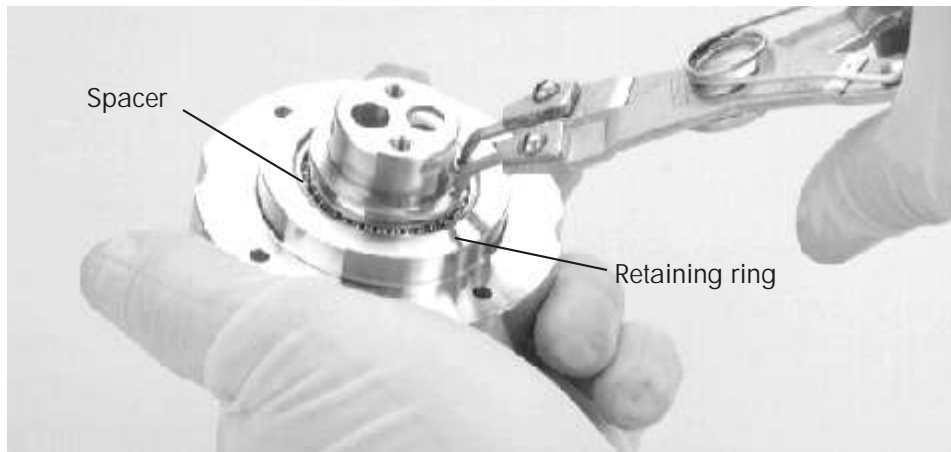

Figure 5-16. Removing the retaining ring
Perform the steps described below and refer to Figures 5-16 and 5-17 when disassembling the bearing housing assembly.
- Step 2. Using a snap ring tool fitted with correct-sized prongs, spread the retaining ring and remove it from around the pivot shaft (see Figure 5-16).
Step 1. Put the pivot shaft in place inside the bearing housing, making sure that both parts face the correct direction. Figures 5-16 and 5-17 show these parts correctly assembled.